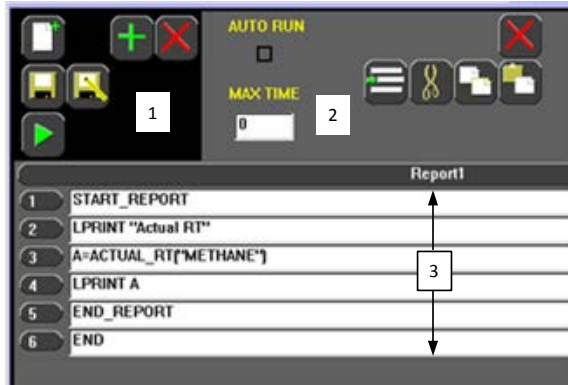

Fig. 9.1. Scripting Example
The analyzer has programmatic control and calculation in addition to the built-in capabilities. The Program Tab provides the means to customize analyzer operation to support most requirements (see Figure 9.1).
5. Enter lines of script (see Figure 9.1).
To add a line (see Figure 9.1):